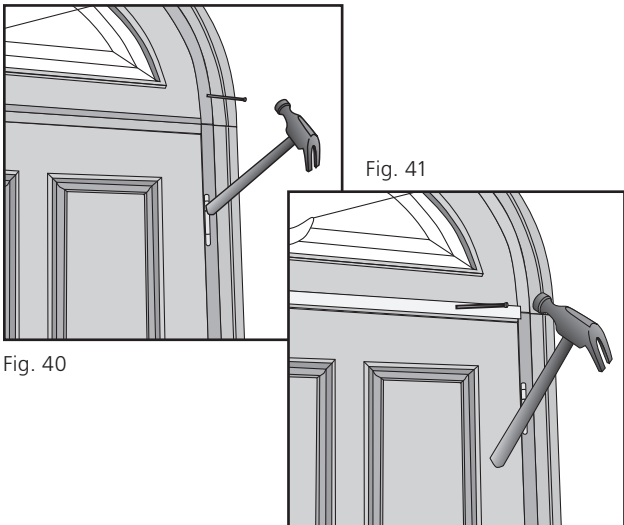

Fig. 40
- K. To secure transom sash to jamb, set quarter round stop and fasten with 1½" finish nails (**Fig. 40**).